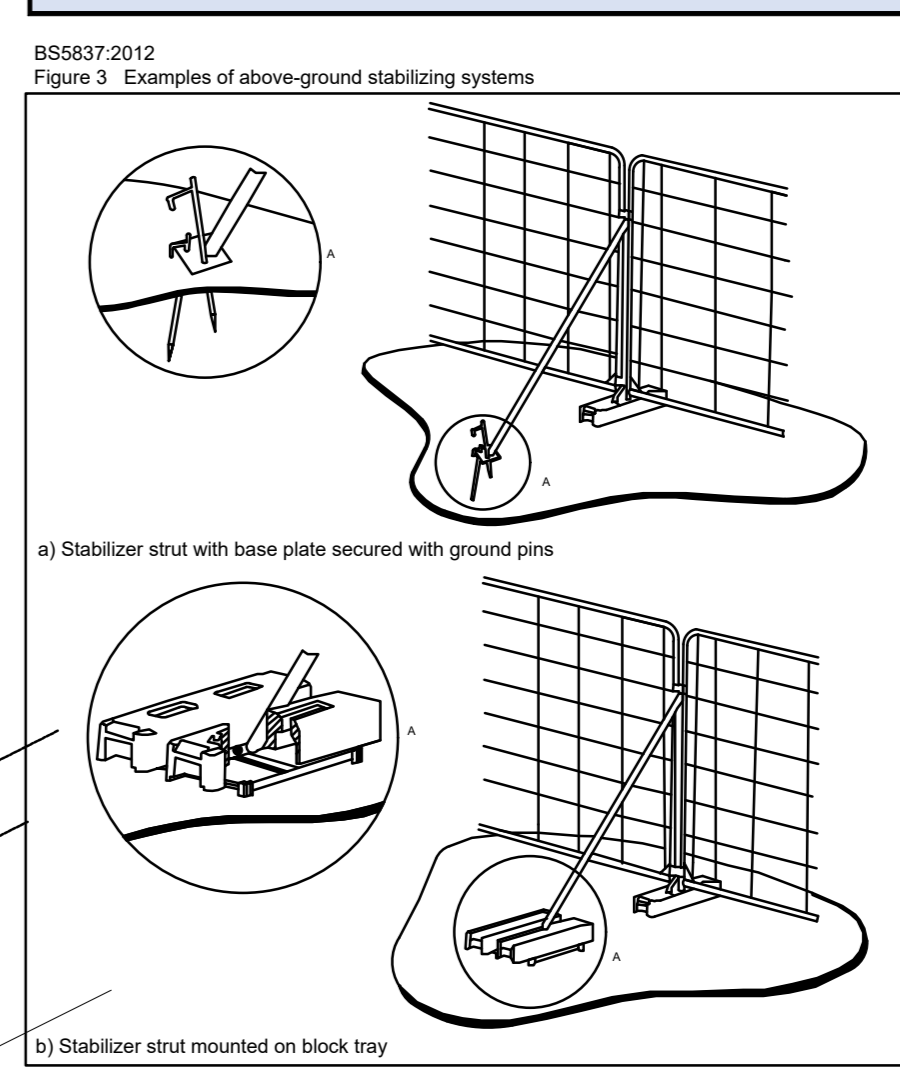

Figure 3 Examples of above-ground stabilising systems
1. In accordance with arboricultural industry standards, it is imperative to install temporary protective fencing along the perimeter of the existing car park to the north of site until the car park has been removed carefully. This temporary fencing, delineated by a magenta coloured line on the plan, shall adhere to the specifications outlined in Figure 3 of BS5837:2012, employing an above-ground stabilising system.
- Temporary protective fencing location - see inset for type / construction detail (Figure 3)